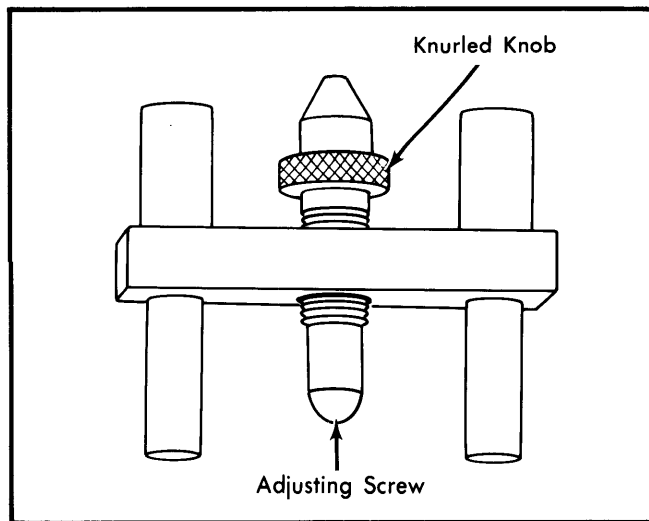

Fig. 9 Push Rod Adjustment Gauge
3) Before installing master cylinder to power brake unit, check master cylinder-to-push rod clearance. Place rod bolt adjustment gauge (Fig. 9) on master cylinder open end with knurled knob up.